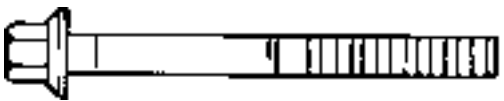

Figure 11-10. Connecting Rod Bolts.
5. Three different types of connecting rod bolts have been used in production and each has a different torque value. See Figures 11-10 and 11-11.